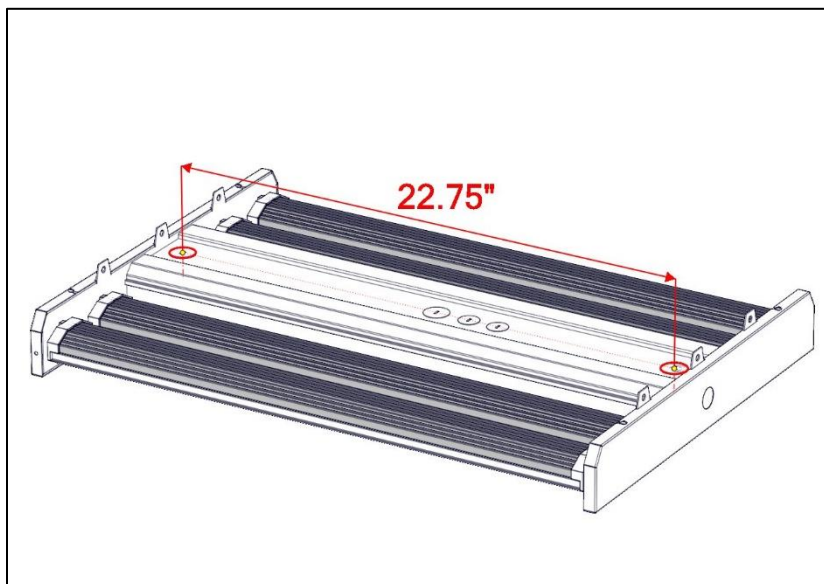

Figure 1
2. Prepare the mounting locations. Mounting hardware spaced approximately 2ft apart. Conduit spacing is approximately 22.75" on-center for 2 ft. fixture pendant mounting. (Figure 1)